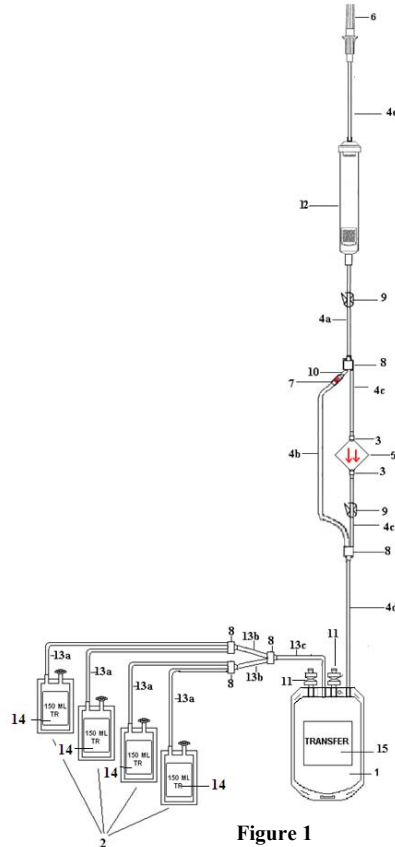
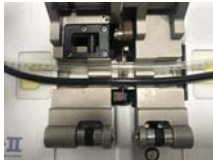
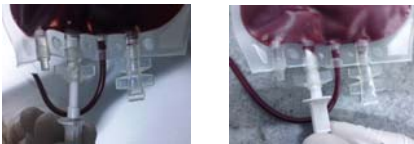

Figure 1
Figure 3
Figure 4
They are disposable, sterile transfusion sets which contain a transfer spike, di-(2-ethylhexyl)-phthalate (DEHP) plasticized polyvinyl chloride (PVC) tubing, a 500 ml blood bag and 4 pediatric bags of 150 ml, a leukocyte filter, drip chamber (Figure 1). They are sterilized by Gamma irradiation.
1. Take the filter out from primary packaging. Filter is ready to be connected to the blood bag (Figure 1).
3. Close the clamp under the drip chamber (Figure 1, No: 9).
- a. If connection will be performed by the sterile connector device, the tube of the RC unit and tube of the filter set have to be connected (under the spike, Figure 1, No: 4e) (Figure 3). **Caution:** See sterile connector device user manual.
- ii. Open the safety cap of the spike of the filter (Figure 1, No: 6) and connect it to the outlet port of the blood bag firmly (Figure 4). **Caution:** Make sure that the air vent cap of the spike is closed.
3. Open the clamp under the drip chamber (Figure 1, No: 9 and Figure 6).
7. After 90% of the blood is filtered, close the clamp under the filter (Figure 1, No: 9).